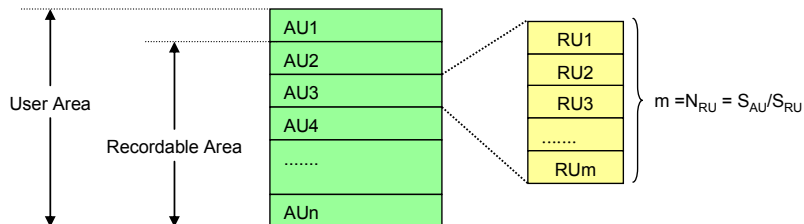

Figure 4-15: Definition of Allocation Unit (AU)
4.13.1.1 Allocation Unit (AU)
The User Area is divided into units called "**Allocation Unit (AU)**" (Refer to Figure 4-15). AU is physical boundary in User Area of a card and is not defined by the file system boundary. Each card has its own fixed **AU Size (S_{AU})** and the maximum AU Size is defined depending on the card's capacity. The host should manage data areas with the unit of AU. If the first AUs in the card contain file system information then they should not be used for real time recording. An AV application should start recording from the first complete AU, to which only user data can be recorded. Note that this specification does not apply to the Protected Area.
4.13.1.2 Recording Unit (RU)
Each AU is divided into units called "**Recording Unit (RU)**" (Refer to Figure 4-15). The unit of **RU Size (S_{RU})** is 16KByte. The RU Size is a multiple of 16KByte and shall not span across an AU boundary.